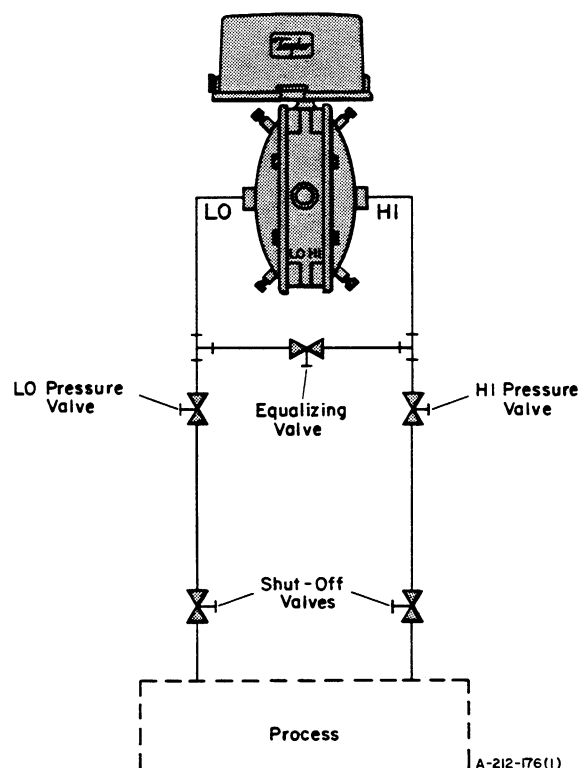

Figure 4. Process Connection Lines
1. Make sure low pressure and high pressure valves, Figure 4, are closed.
1. Close low pressure valve, Figure 4.